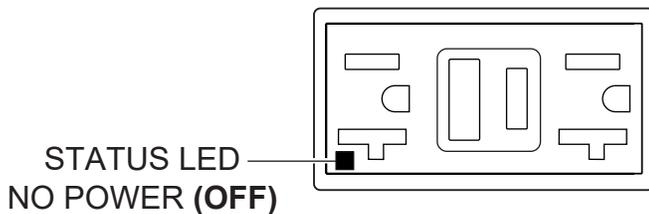

Figure 50. GFCI Receptacle (ON)
3. Verify that the status LED on the corresponding GFCI receptacle (Figure 50) is **ON (GREEN)**.